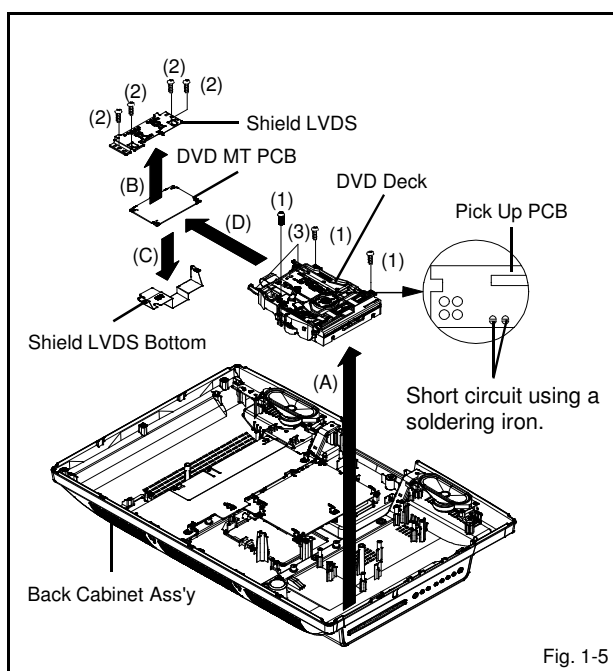

Fig. 1-5
### 1-5: DVD MT PCB and DVD DECK (Refer to Fig. 1-5)
2. Short circuit the position shown in Fig. 1-5 using a soldering iron. If you remove the DVD Deck with no soldering, the Laser may be damaged.
4. Remove the 3 screws (1).
5. Remove the DVD DECK Ass'y in the direction of arrow (A).
6. Remove the 4 screws (2).
7. Remove the Shield LVDS in the direction of arrow (B).
8. Remove the Shield LVDS Bottom in the direction of arrow (C).
9. Unlock the 2 supports (3).
10. Remove the DVD MT PCB in the direction of arrow (D).